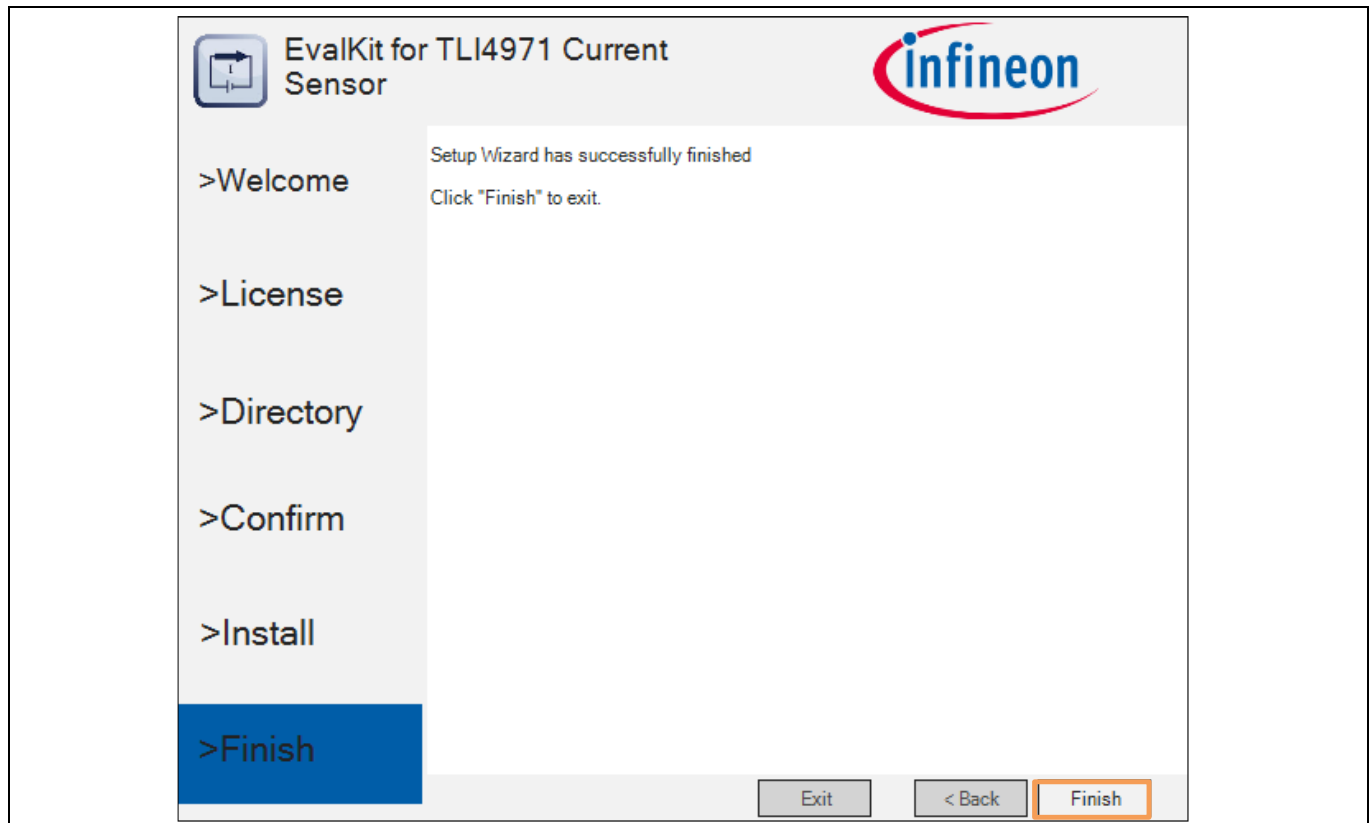

Figure 26 EvalKit Installer 1.0.2 –Installation Completed
- Click **“Finish”** button which has shown in the below Figure 26 to complete the Evalkit software GUI installation.